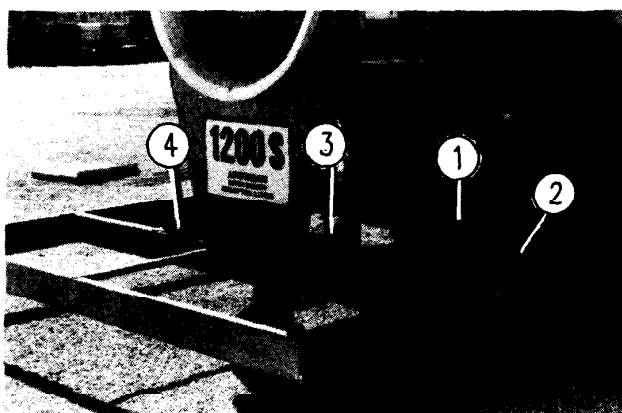

FIG. 5 - CONNECTING LEFT-HAND FLOOR SUPPORT ANGLES AND ACCESS DOOR REAR FRAME.
- B. Use a flat-head allen capscrew and connect the rear left-hand floor support angle (No. 1, Fig. 5, Part No. D61-0052) to the rear angle tie.
- C. Connect the access door rear frame (No. 2, Fig. 5, D61-0091) between the support angle and the left-hand side channel as shown in Fig. 5.
- D. Connect the front left-hand support angle (No. 3, Fig. 5, D61-0053) as described below:
- E. Connect the inner front toe board (No. 4, Fig. 5, D61-0049) as shown.